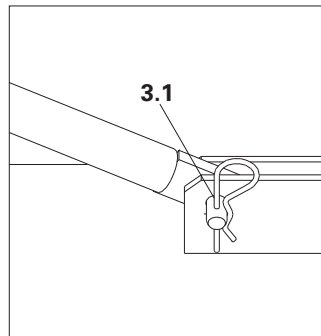

Fig. A2.11
- Always attach the Push-Pull Prop in the drilled hole (3.1). (Fig. A2.11)